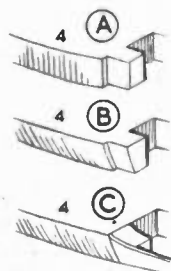

Fig. 2
At the bow, piece 8 is glued to overlap slightly, and is also tapered towards the farther end. Notice in pieces 4 and 7 that a slight gap is made in the corner of each side. This indentation is to take the thickness of the card which forms the bulwarks. These will be added later and must, of course, slope inwards. The detail at Fig. 2 shows how the gap is made so that the bulwarks can bed down. In piece 4 there is the small projecting portion (A) and this has to be cut sloping inwards and downwards (B)